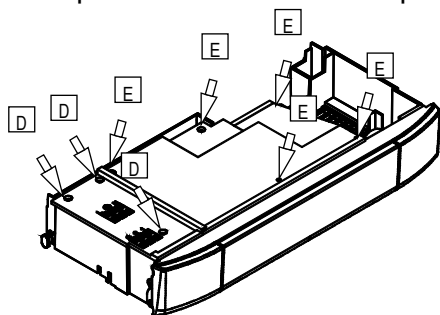

Figure 5
- 4) Remove the screws D and remove the service panel (Figure 5).
- 5) To gain access to the electronic control p.c.b. and the fan and air pressure device remove the screws E and remove the control panel lid (Figure 5).